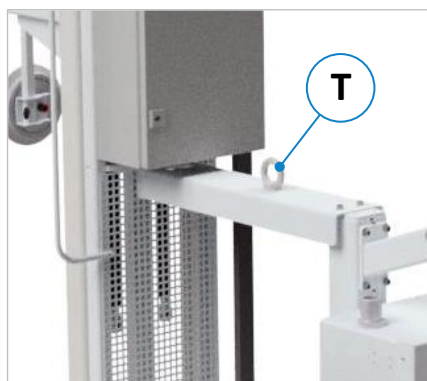

Figure 4: Transport eyelet
4. Then drill 4 through holes (e.g. \varnothing 10.5 mm each) through the boards (B) and the pallet base.
6. The Mobile Lifter can be additionally lashed between the screws of the boards (B), see lashing strap (Z2).
7. Secure the rear swivel castors from rolling away with wooden boards (R) or wedges screwed into the pallet.
8. Secure the front fixed castors against lateral forces with 1 continuous underlay board + 2 wooden blocks (K).
10. The transport eyelet shown in ⇒ Figure 4 serves exclusively to lift the Mobile Lifter and should expressly not be used for lashing.